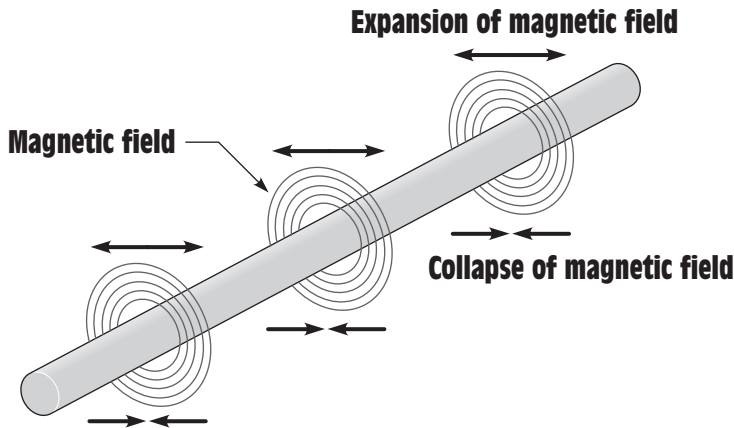

Figure 10-3 A continually changing magnetic field induces a voltage into any conductor.
Inductance (L) is one of the primary types of loads in alternating current circuits. Some amount of inductance is present in all alternating current circuits because of the continually changing magnetic field, *Figure 10-3*. The amount of inductance of a single conductor is extremely small, and in most instances it is not considered in circuit calculations. Circuits are generally considered to contain inductance when any type of load that contains a coil is used. Loads such as motors, transformers, lighting ballast, and chokes all contain coils of wire.